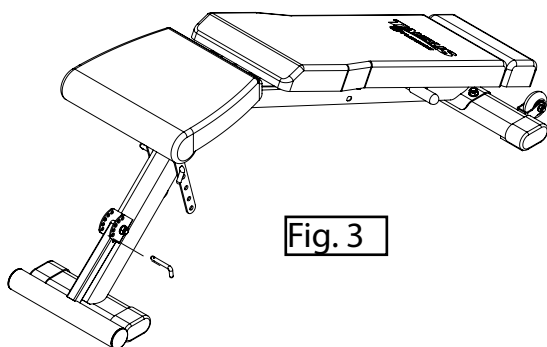

Fig. 3
4. Remove the L-pin from the foot rest (Fig. 3).
5. Lower the foot rest (Fig. 3).
6. Insert the L-pin into the lowest hole (Fig. 3).